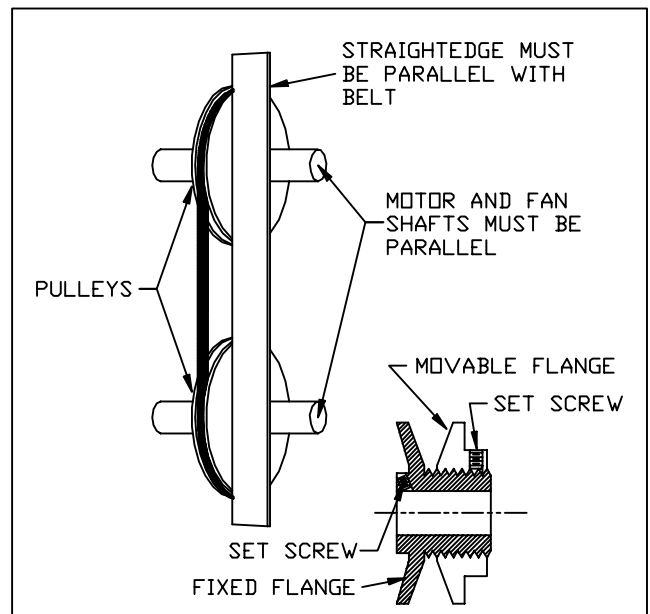

Figure 8 Fan Pulley Adjustment
- Loosen movable pulley flange set screw (Figure 8).
PULLEY ALIGNMENT - Shut off unit power supply. Loosen fan motor pulley set screws and slide fan pulley along fan shaft. Make angular alignment by loosening motor from mounting bracket (See Figure 8).